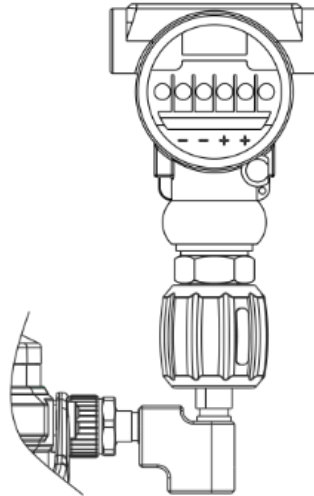

Figure 4 Connect to DUT
As shown in Figure 4.
- (1) Output the pressure using internal module **I**, please refer to the Figure 4 to connect the UUTs.
- (2) If wants to use external modules **A** or **B**, need a ADT107 manifold (Optional), and please follow the below steps to make the connection.